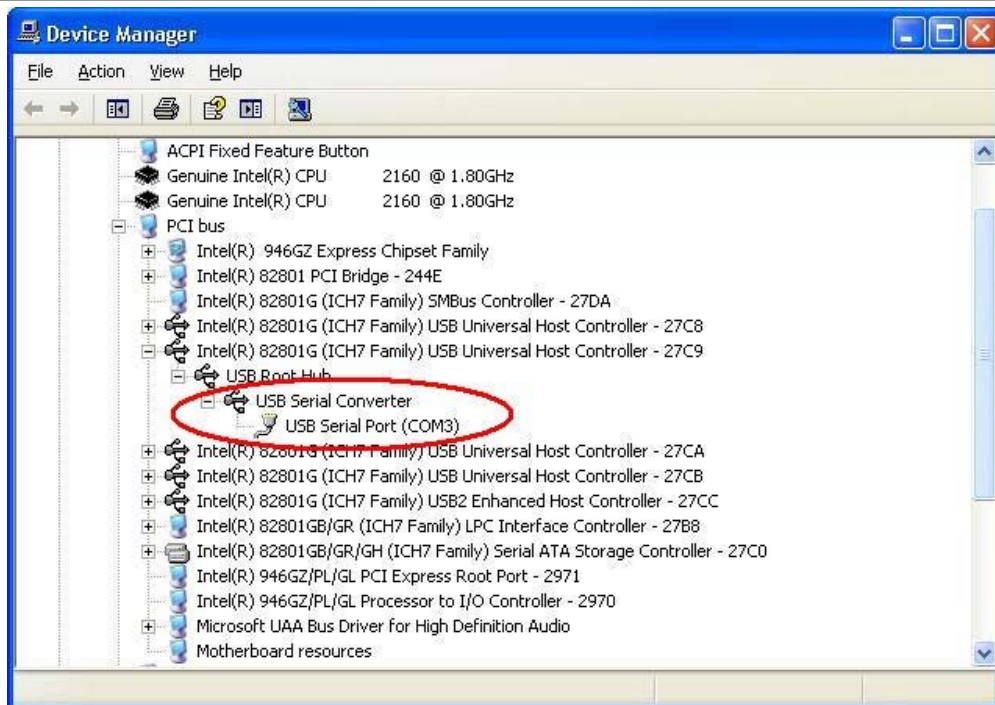

Figure 2.10
- Open the Device Manager (located in "Control Panel\System" then select the "Hardware" tab and click "Device Manger") and select "View > Devices by Connection", the device appears as a "USB Serial Converter" with an additional COM port with the label "USB Serial Port" (Figure 2.10). If the device is based on the FT2232, two ports will be available from a composite USB device.